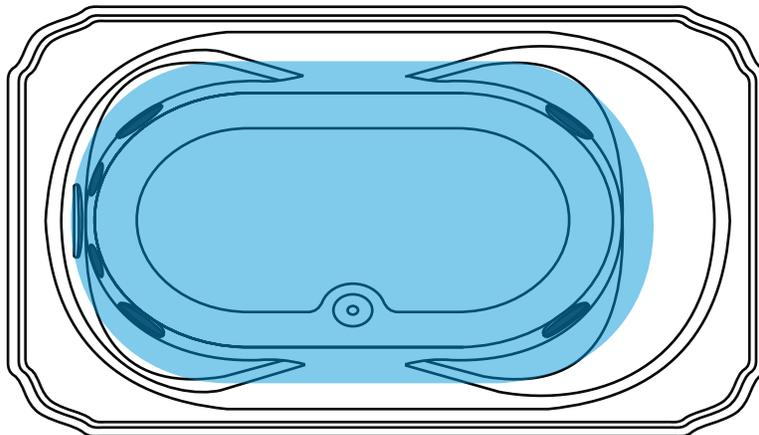

Fig. 24
- 8 - Remove two (2) heater gaskets included with your Pure Heat heater and install them onto the plumbing tailpieces, making sure the gasket ridge is seated in the tailpiece groove (see Fig. 24).
- 9 - You are now ready to install the heater in the open space between the two (2) tailpieces (ensure that the gaskets remain in place). Slide both heater nuts inward toward the center of the heater to expose the mating surfaces of the heater housing. Slide the heater carefully into place between the tailpieces and gaskets and hand-tighten heater nuts. If you use a wrench be careful not to over-tighten, the nuts can crack.